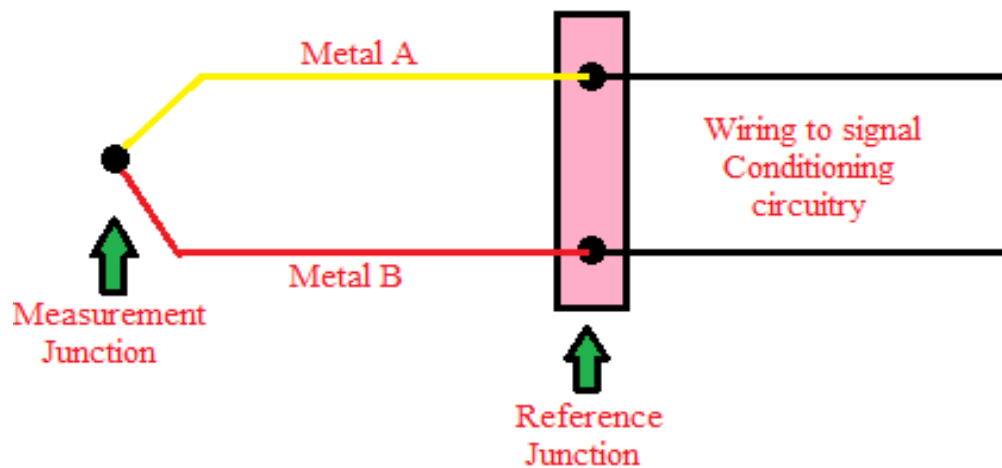

Fig. 5.5 Thermocouple.
- A thermocouple, shown in Fig.5.5, consists of two wires of dissimilar metals joined together at one end, called the measurement ("hot") junction.